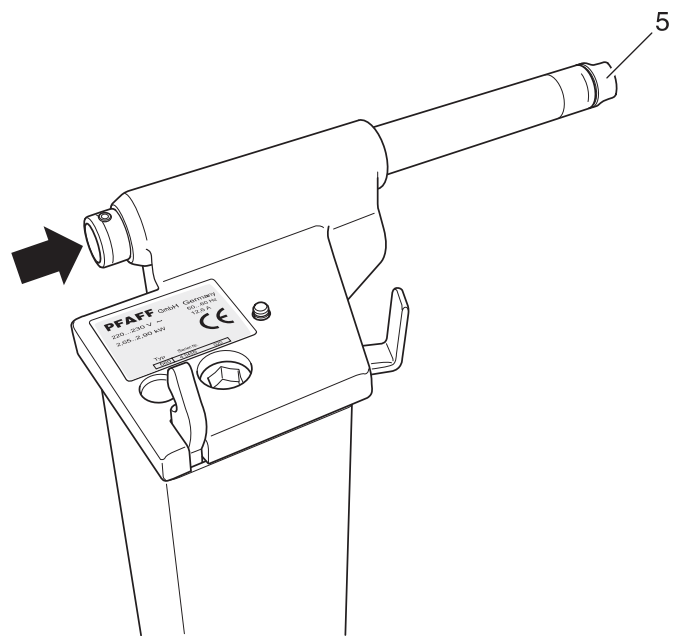

Fig. 18a
- Knock out torsion bar 5 towards the front from the pin side (fig. 18a).